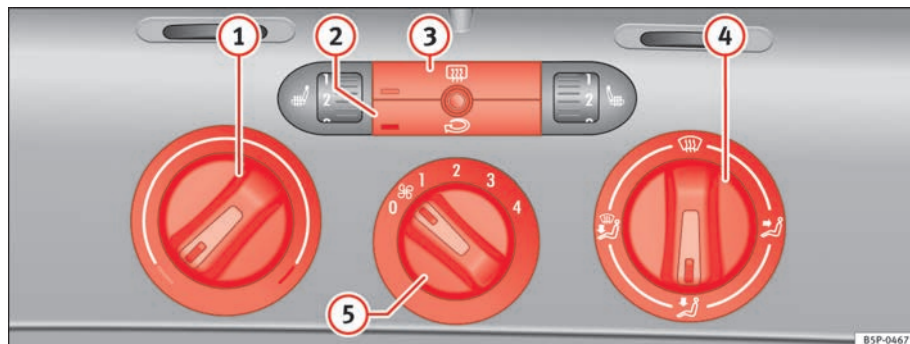

Fig. 107 On the dash panel there are the heating controls
- Using the controls ⇒ fig. 107 ① and ④ and the control ⑤ you can set the temperature, air distribution and the fan speed.
- To switch a function on or off, press the appropriate button ② or ③. When the function is activated, the display window in the lower left of the button is lit.